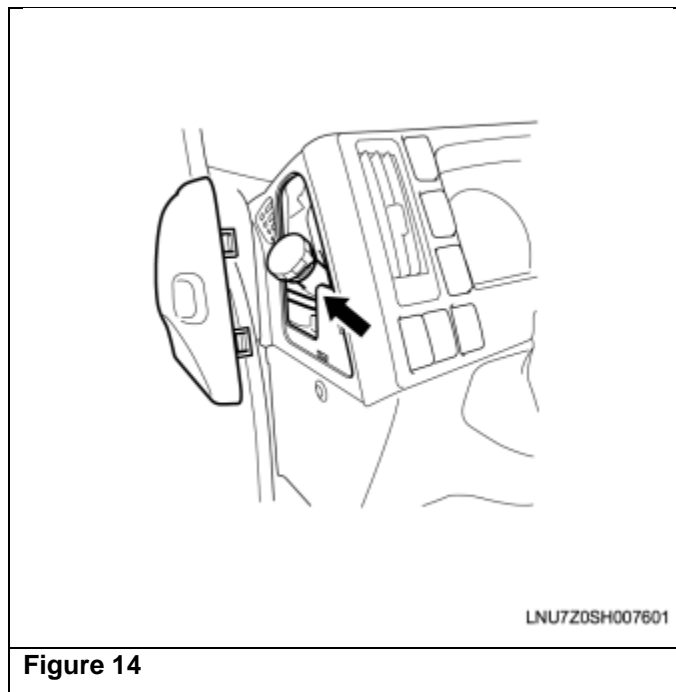

Figure 14
34. Fill the reservoir with brake fluid DOT 3 or equivalent and keep it at least one-half full of fluid during the bleeding operation. (See Figure 14.)